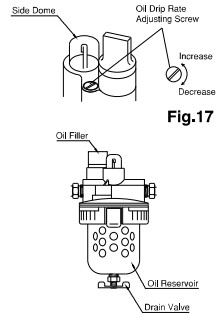

Fig.17
③ Adjusting the Oil Drip Rate (Fig.17)